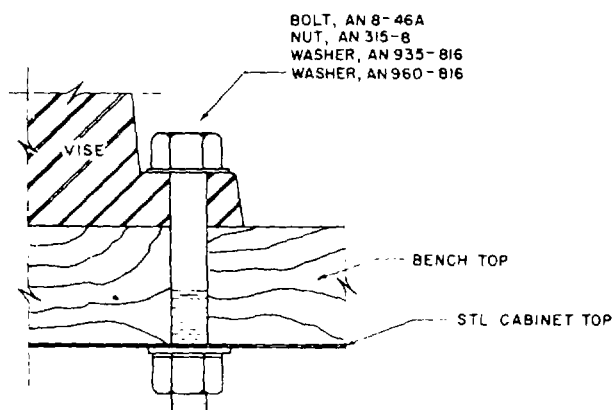

Figure 38. Typical bench top mounting, machinists vise.
- (3) *Vise, machinists.* The vise is bench mounted. Refer to figure 38 for typical mounting method. Details of mounting